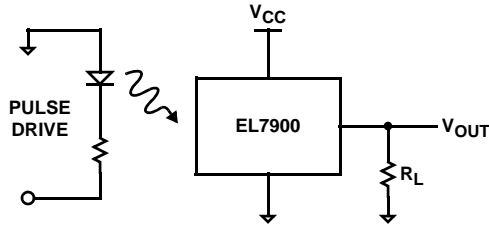

FIGURE 1. RISE/FALL TIME MEASUREMENT
2. Switching time measurement is based on Figures 1 and 2.
For some applications, a load resistor is added between the output and the ground as shown in Figure 1. The output voltage can be expressed in Equation 2: